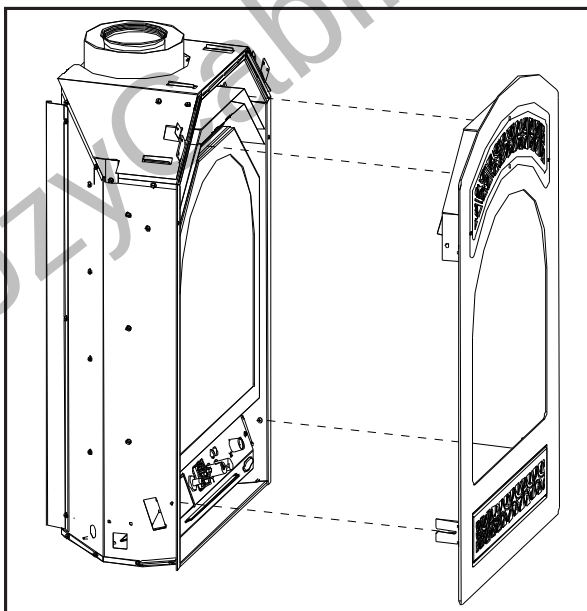

Figure 61: Installing Chalet onto The Retreat.
1. Ensure the lip with the tabs on the fascia is resting on top of the one on the Retreat (see Figure 61).
2. Slide the two (2) mounting slots at the bottom of the fascia onto the studs on the Retreat (see Figure 61 & 62).